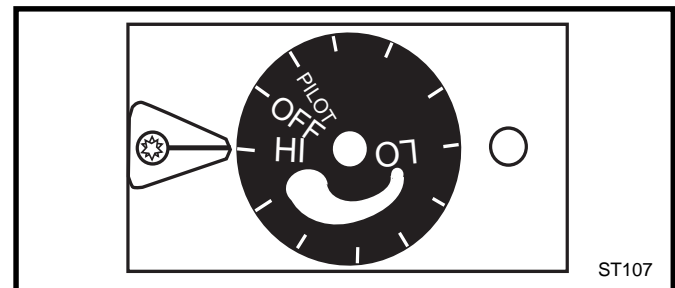

Fig. 24 UVS27M/SIT Control Valve in ON position.
8. SIT (Manual valve): Turn gas control knob counterclockwise  to anywhere between low and high as you desire. (Fig. 24)